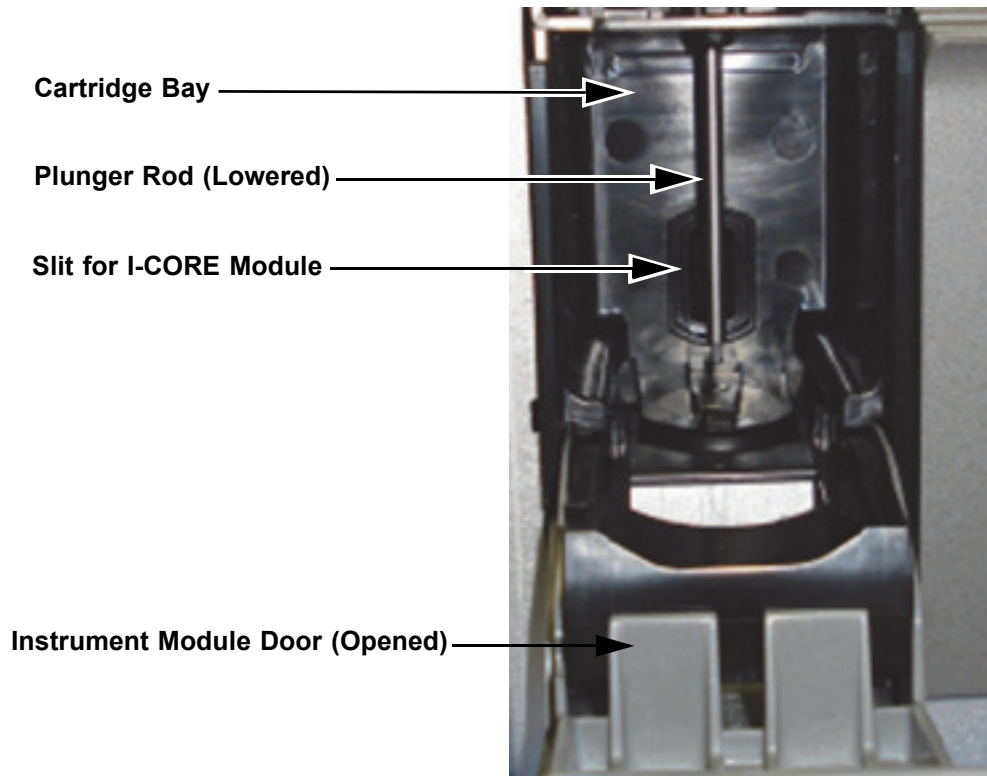

Figure 9-5. Plunger Rod Lowered into Cartridge Bay
- In the Plunger Rod Maintenance dialog box, the **Clean** button name changes to **Move Up** (if the **Clean All** button is clicked, it changes to **Move Up All**). In the instrument, the plunger rod(s) in the selected module(s) (or all modules if the **Clean All** button is clicked) lowers into the cartridge bay(s). See Figure 9-5.
Getting liquid inside the I-CORE module can damage the module. Do not touch the slit on the I-CORE module where the cartridge reaction tube is inserted (see Figure 9-5).